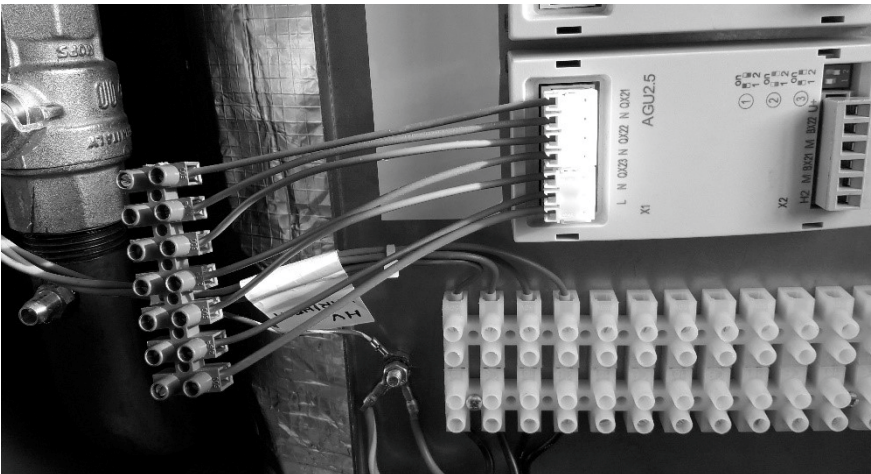

Figure 7: Control Harness Terminal Block Adaptor
- ◆ If required, add the Control Harness Terminal Block Adaptor (see Figure 7) to the extension module(s).